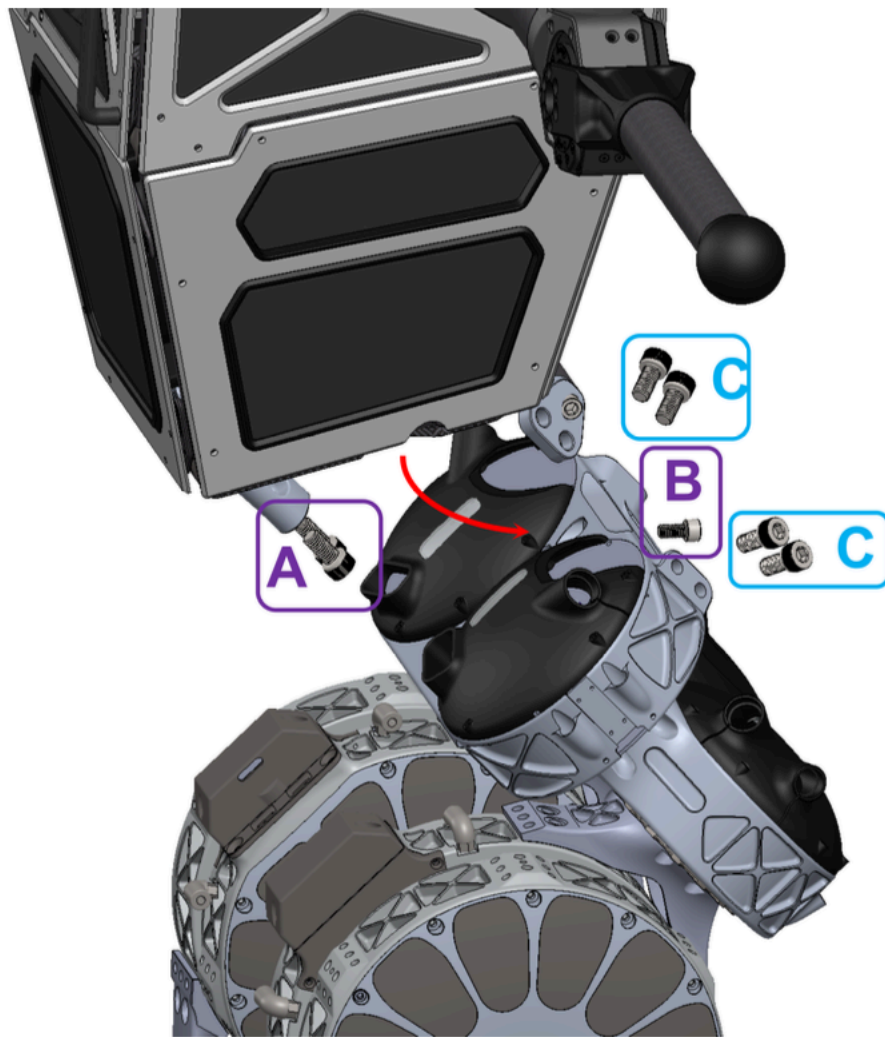

Figure 3.1: Assembling the Upper Body and the Lower Body
2. **Align the Upper and Lower Bodies:** Carefully lift the Upper Body and align it with the Lower Body, as shown with the **red arrow** in Figure 3.1. Ensure both parts are positioned correctly before proceeding with the connection.
3. **Secure the Upper Body to the Lower Body:** Once the upper and lower bodies are aligned, use the Assembly Bolts to secure the two parts together, following the steps below. Referring to Figure 3.1 for bolt locations):